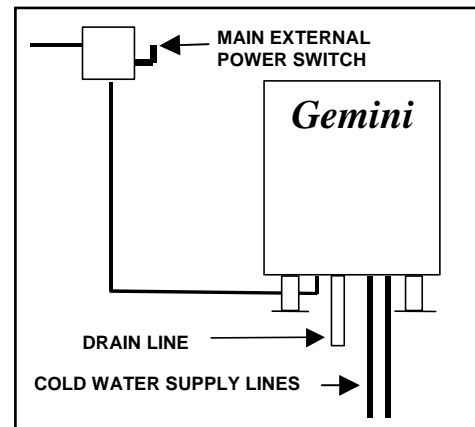

Figure 2-1 Main External Power Switch
4. Refer to the main external power switch in Figure 2-1 and turn on electric power to the steamer. The steam generators will immediately start blowdown cycles. The blowdown cycle lasts 3 minutes (Refer Ch.5 "Shutdown and Cleaning procedure" for blowdown cycle).